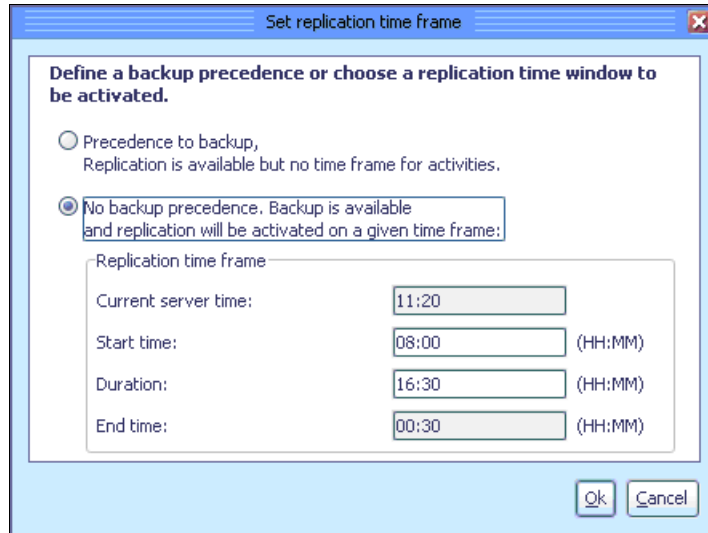

Figure 5-113 Set replication time frame
1. In the System Management View Pane, select **Select Replication** → **Set replication timeframe**. The Set replication time frame window opens (Figure 5-113).